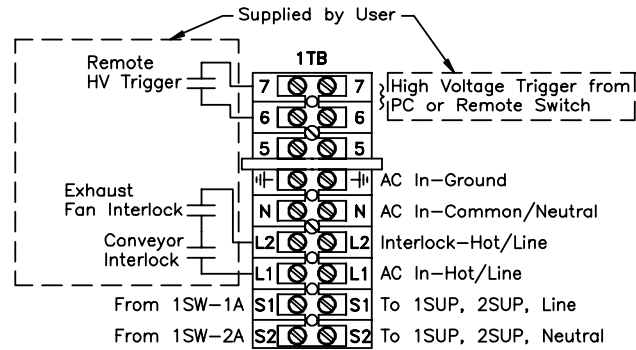

Figure 4: Terminal Block One (1TB)
4. Route exhaust fan and conveyor interlock (supplied by user) wiring through the external wiring grommet on the side of the power supply and connect to 1TB-L1 and 1TB-L2 as shown in Figure 4. **The interlock contacts should be rated for at least 1 Amp at 240 volts AC.**